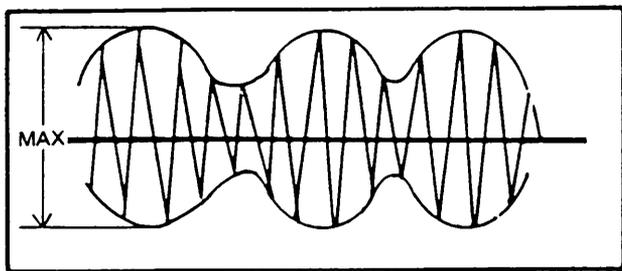

Fig 9. Pilot Carrier Response Waveform.
- 4) Adjust L604 (Pilot Carrier Detection Coil) for maximum amplitude. (Fig. 9)